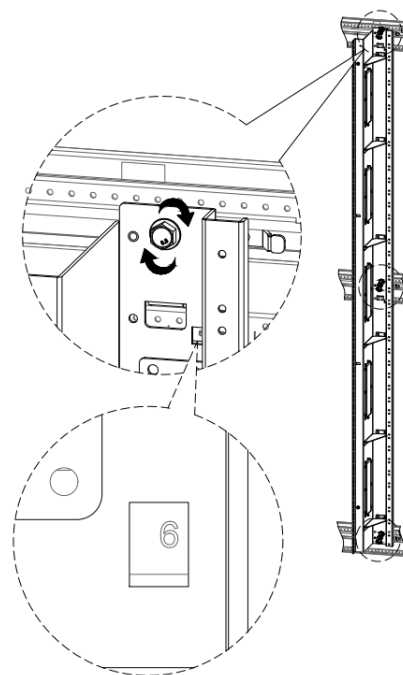

Figure 6.4.1
- Using an M8 socket or wrench, loosen, but do not remove, the three M8 x 12 bolts located at the top, middle, and bottom of each vertical equipment mounting rail (Figure 6.4.1).
- Align the vertical mounting rails to leave the same number observation hole on either side. (Figure 6.4.1)